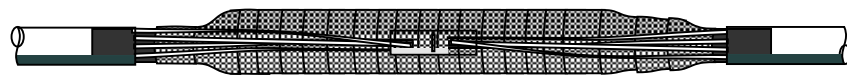

Fig 10
17. Wrap a layer of KM50 Copper Screening Bandage over the joint area and secure. Bend the Copper Wire Screen back over the Joint and twist the ends together to form a stranded Conductor. Join the two Wire Screens with a Crimp Ferrule as shown in Fig 10.